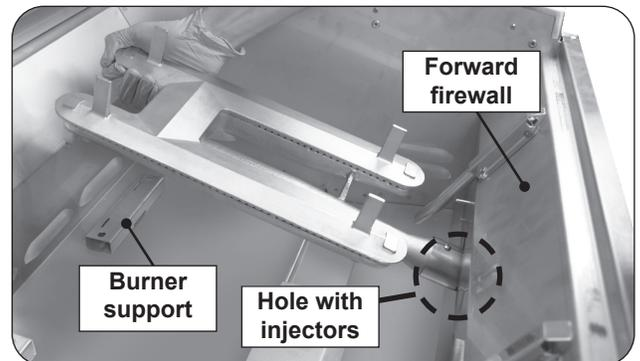

Fig. 35-3 Remove main burner
3. Carefully lift the burner from the burner support and out from the hole in the forward fire wall. See Fig. 35-3.